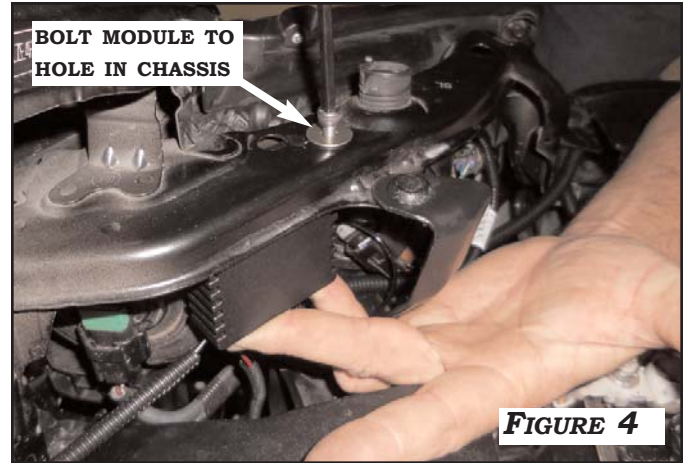

FIGURE 4
2. MOUNT THE CONTROL MODULE AND BRACKET TO THE CHASSIS OF THE VEHICLE IN THE AREA BEHIND THE LEFT HEADLIGHT AND BESIDE THE BATTERY AS SHOWN IN **FIGURE 4**.